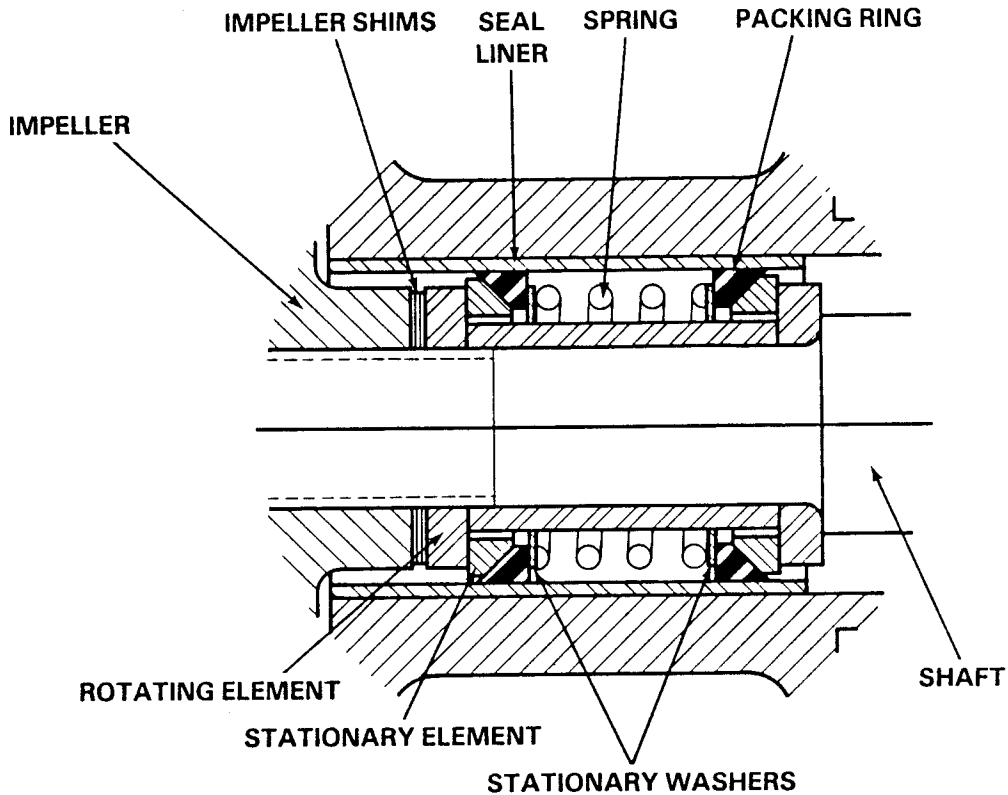

Figure 3. GS00625 Seal Assembly
To ease installation of the seal, lubricate the packing rings and seal liner (6) with water or a very **small** amount of oil, and apply a drop of light lubricating oil on the finished faces. Assemble the seal as follows, (see Figure 3).